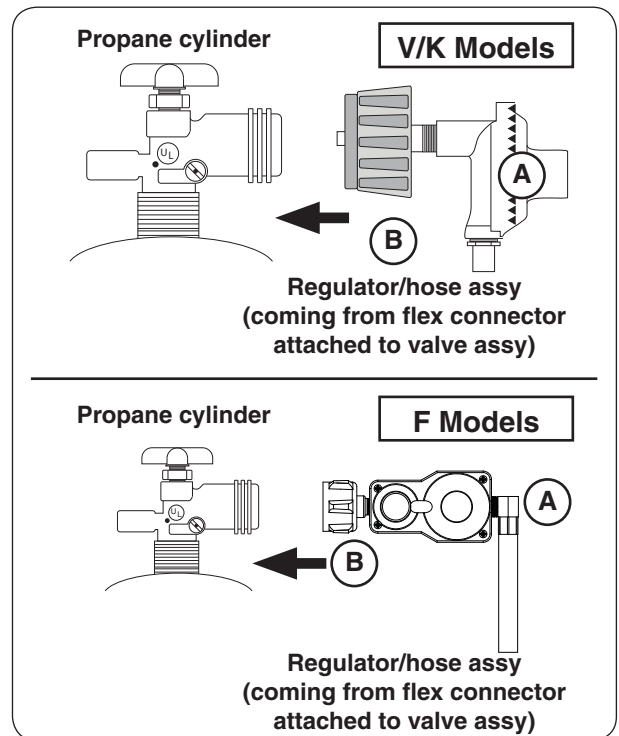

Fig. 29-2 Connecting to an L.P. cylinder
4. Attach the regulator end of the hose assembly to a propane cylinder (not included) and tighten (see Fig. 29-2).